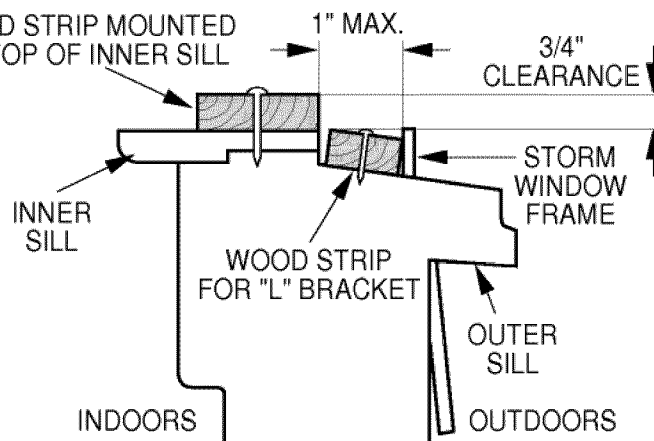

Fig. 4-2
1. This unit is designed for installation in standard double hung windows with actual opening widths of 22" to 36". The upper and lower sash must open sufficiently to allow a clear vertical opening of 14" from the bottom of the sash to the window stool. (Fig. 4-2)
2. If a storm window presents interference, fasten a 2" wide wood strip (OUTER SILL) to inner window sill across the full width of the sill. The wood strip should be thick enough to raise the height of the window sill so that the unit can be installed without interference by the storm window frame. See Fig. 4-2. Top of wood strip should be approximately 3/4" higher than the storm window frame (STORM WINDOW FRAME) or wood strip (OUTDOORS) to help condensation drain properly to the outside.
3. Install a second wood strip (approximately 6" long 1-1/2" wide and same thickness as first strip) in the center of the outer sill flush against the back off the inner sill. This will raise the "L" bracket as shown Fig. 4-2.